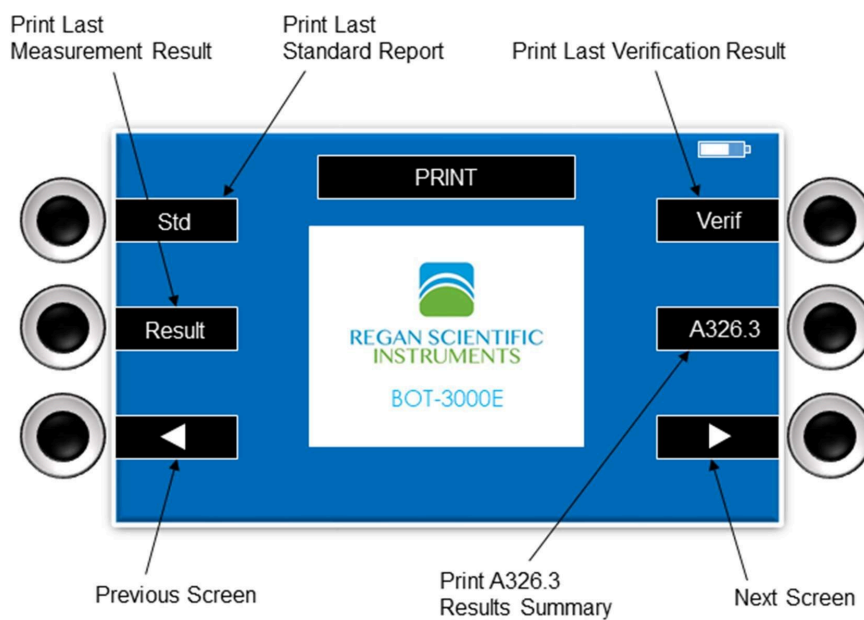

Figure 7. The PRINT screen.
- Print hardcopies of the most recent test results, calibrations and verifications from the **PRINT** screen (Figure 7), or immediately after a test run.